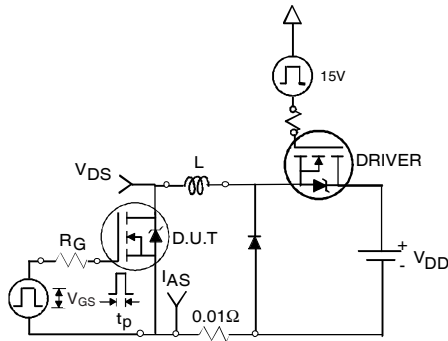

Fig 12a. Unclamped Inductive Test Circuit
- ③ Pulse width $\leq 1.0\text{ms}$; duty cycle $\leq 2\%$.
- ④ $C_{oss \text{ eff.}}$ is a fixed capacitance that gives the same charging time as C_{oss} while V_{DS} is rising from 0 to 80% V_{DSS} .
- ⑤ Limited by T_{Jmax} , see Fig.12a, 12b, 15, 16 for typical repetitive avalanche performance.
- ⑥ This value determined from sample failure population. 100% tested to this value in production.
- ⑦ This is applied to D²Pak, when mounted on 1" square PCB (FR-4 or G-10 Material). For recommended footprint and soldering techniques refer to application note #AN-994.
- ⑧ R_θ is measured at T_J of approximately 90°C .
- ⑨ Solder mounted on IMS substrate.
3. Equation below based on circuit and waveforms shown in Figures 12a, 12b.